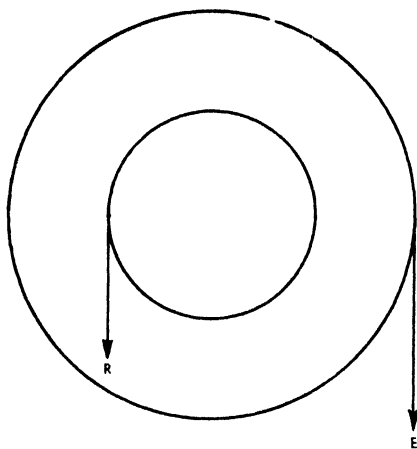

FIG. 96. WHEEL AND AXLE AS A LEVER.
- 5. Complete the diagram in Fig. 96, to show that the wheel and axle is